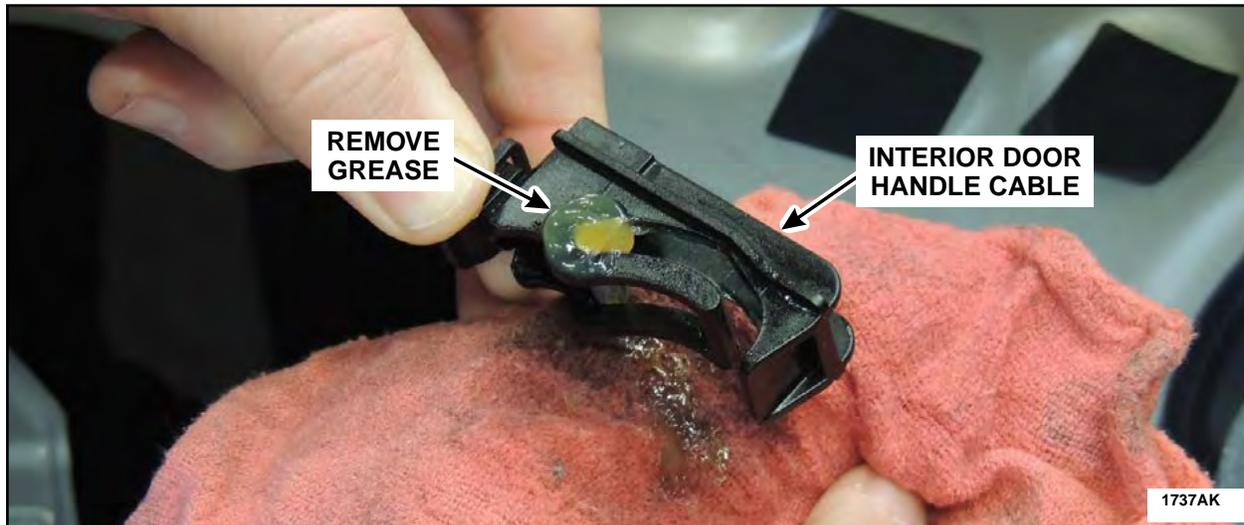

FIGURE 87
14. Using isopropyl alcohol and a clean shop cloth, thoroughly remove grease from the interior door handle cable mechanism. See Figure 87.